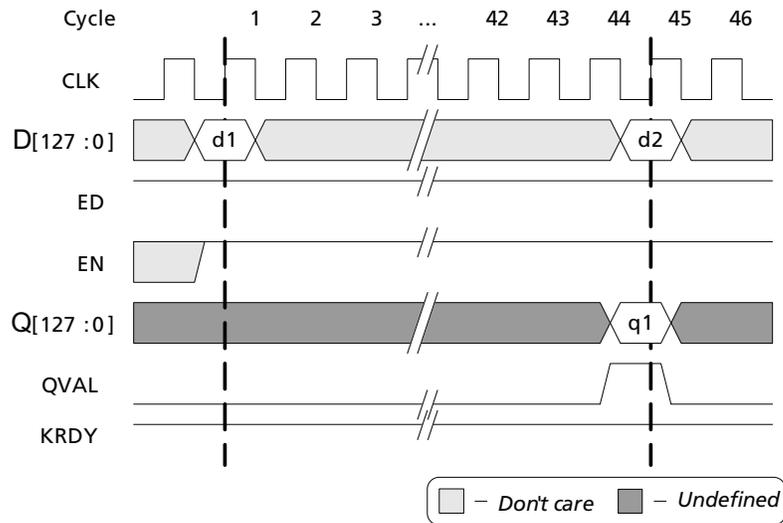

Figure 3 · Example Encryption Sequence
Follow the steps below to begin the encryption data process (Figure 3 on page 11):
2. Set D[127:0] to the plaintext data to be encrypted (d1 in Figure 3).
Figure 3) is available on the Q[127:0] outputs. The encrypted data is only available during clock cycle 44, so you must register or latch the data on Q[127:0], using the QVAL signal as a qualifying register enable or latch enable. As shown in Figure 3, continuous encryption is possible. For example, the second 128-bit plaintext data word (d2 in Figure 3) can be immediately encrypted by setting the D[127:0] input to d2 on the rising clock edge of clock cycle 45.